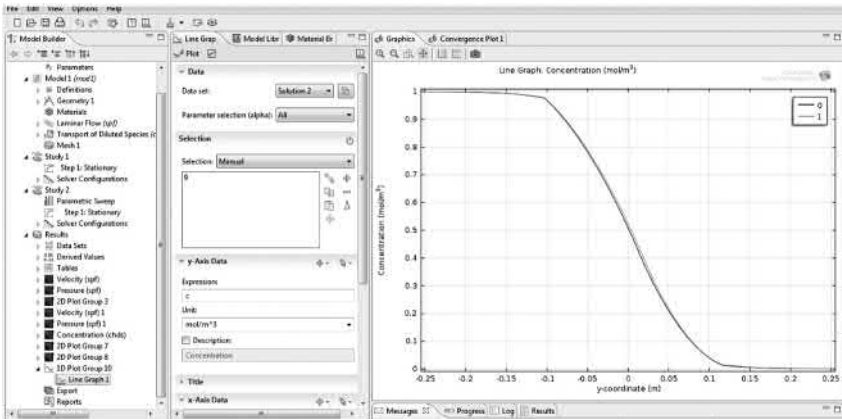

FIGURE 5.10 Concentration profiles of *T*-sensor with different viscosities for  $D = 1/500$ .
- Choose the *1D Plot Group* option by right clicking on *Results* tab. Another window will open namely *1D Plot Group 2*. Select *Line graph* by right clicking on it to see the concentration profiles with viscosity = 1 the other  $1 + \alpha \cdot c$  for  $P_e = 500$  as shown in Figure 5.10.